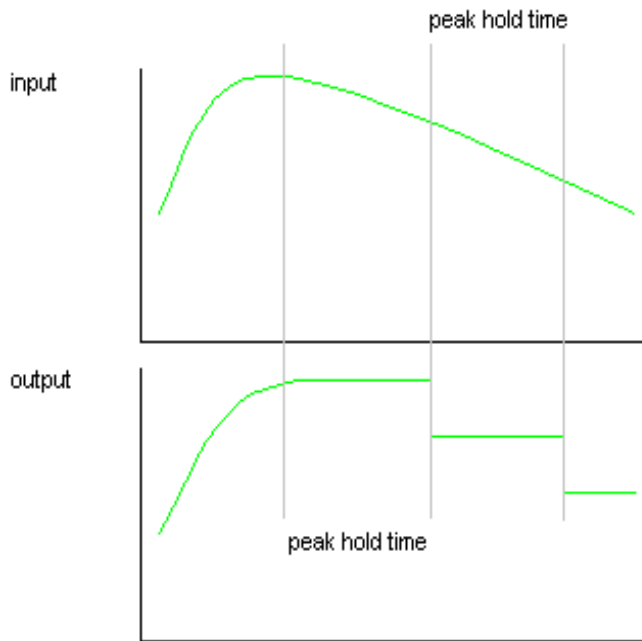

Figure 15 – Sample Peak Hold Output
- ❑ hold at a peak value for a specified period of time as the target temperature decreases (see figure 15).